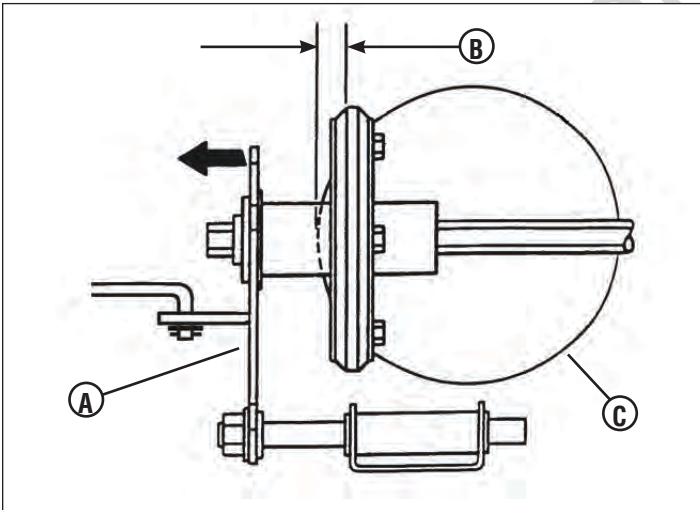

Figure 10
- Manually adjust the driven disc by sliding the driven disc assembly (A, Figure 10) in the direction shown, until measurement 'B' measures 1/8" to the outside edge of the drive disc (C).
- Slide the ground speed control lever back, then fully forward again. Check the driven disc position. If needed, repeat the driven disc adjustment until the 1/8" measurement (B, Figure 10) is maintained, then tighten the jam nut securely against the ball joint.